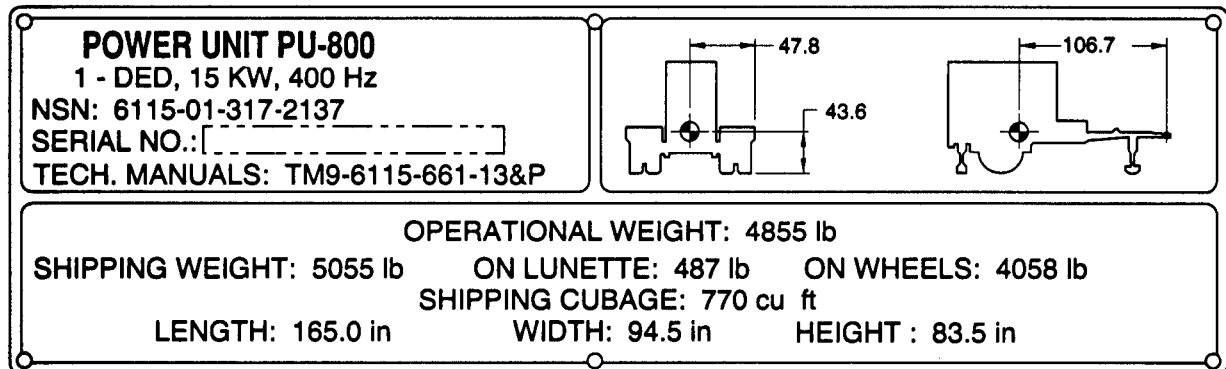

Figure 2-12. PU-800 Identification/Transportation Data Plates.
**2-6.1 PU-800 Identification/Transportation Data Plate.** See figure 2-12. This plate is located on the trailer body.